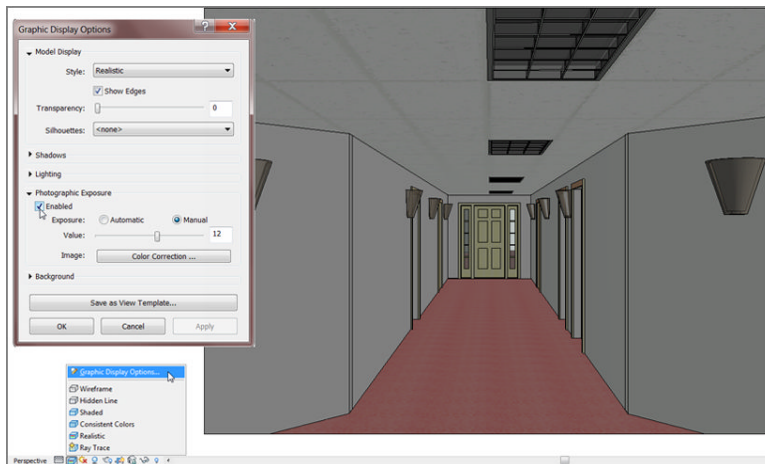

FIGURE 9.48: Looking at the hallway in a perspective view
7. In the Project Browser, double-click the 3D view called East Wing Corridor Perspective. This gives you a good idea of how the up-lighting influences the corridor (see Figure 9.48).
8. On the View Control toolbar, click the Visual Style Icon, and choose the Graphic Display Options choice at the top of the dialog box, as shown in Figure 9.48.